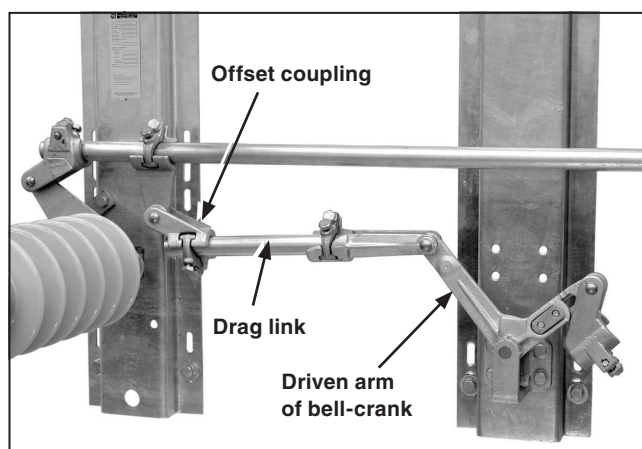

Figure 6. Typical outboard bearing configuration, vertically mounted *between* switch poles.
STEP 4. If a bell-crank assembly is mounted between switch poles, the bell crank will be connected to the interphase pipe by a drag-link pipe section and an offset coupling. Attach one end of the drag-link pipe section to the driven arm of the bell crank. Then, attach the specified offset coupling to the other end of the drag-link pipe section. See Figure 6.